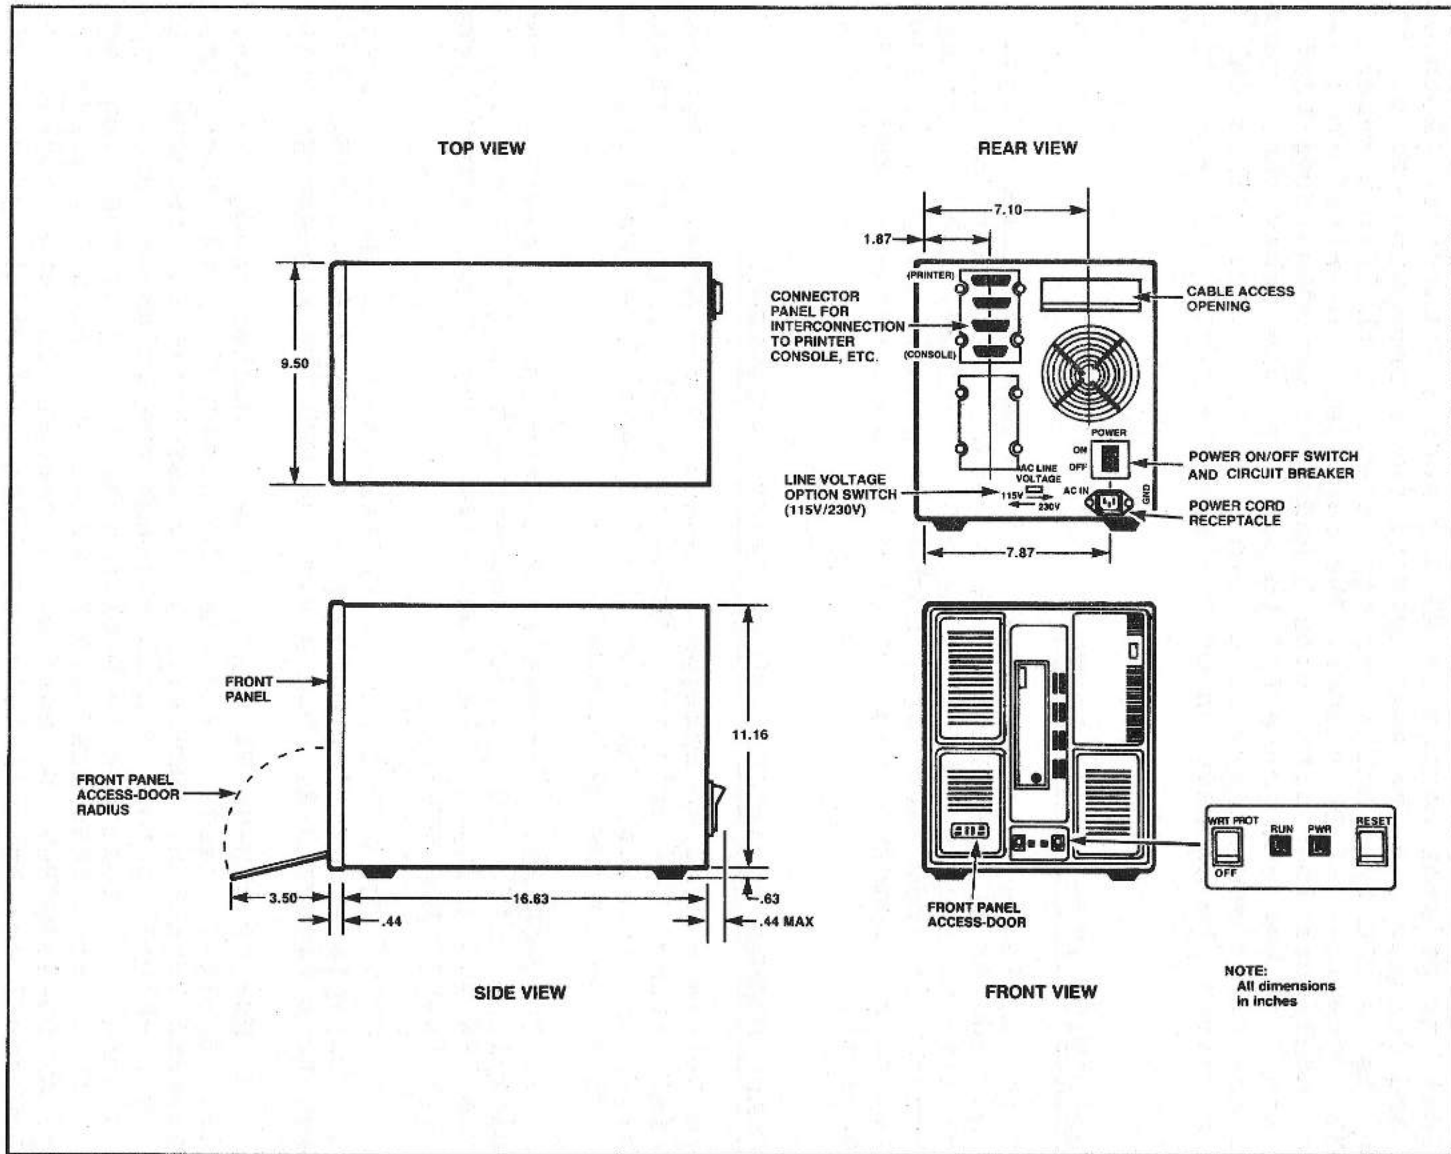

Fig. 3-1 SMS 1000 Model 30
5. MAINTENANCE ACCESSIBILITY. Be sure that the system location allows easy accessibility for routine maintenance. In particular, be sure that cables to the unit are long enough to permit the system to operate when pulled from its normal location to an area that allows accessibility for service. For a diagram showing actual system dimensions, refer to Figure 3-1.
7. ANALYSIS OF COMPUTER SECURITY. If proprietary, financial or other sensitive information is stored in your system, having a computer-security professional perform an analysis of (1) your physical- and procedural-security policies and (2) the adequacy of their implementation, will always repay the effort.
The SMS 1000 Model 30 system can operate on either of two ranges of input power: (1) 90 to 130 volts ac, nominally 115 volts; or (2) 180 to 250 volts ac, nominally 230 volts. Either type of operation can be selected by making a corresponding setting of a slide switch mounted on the back panel. As shown in Figure 3-1, sliding the switch to the left (using a small screwdriver or similar tool) selects 230-volt operation and sliding it to the right selects 115-volt operation.
Before applying power to the system for the first time, be sure that the supply voltage (i.e. 115V or 230V) shown in the voltage-selection window on the rear panel (Figure 3-1) is the same as the line voltage at the wall receptacle to be used. If your system is set for 115 volts and it is plugged into a 230-volt source, a power-supply fuse or the circuit breaker will blow, and damage to other components will occur. If your SMS 1000 Model 30 is set for 230 volts and it is plugged into a 115-volt receptacle, the system will not operate at all, although it will not be damaged.
1. **APPLYING POWER.** Apply a-c power by pressing the "1" side of the switch at the rear of the system enclosure (see Figure 3-1).